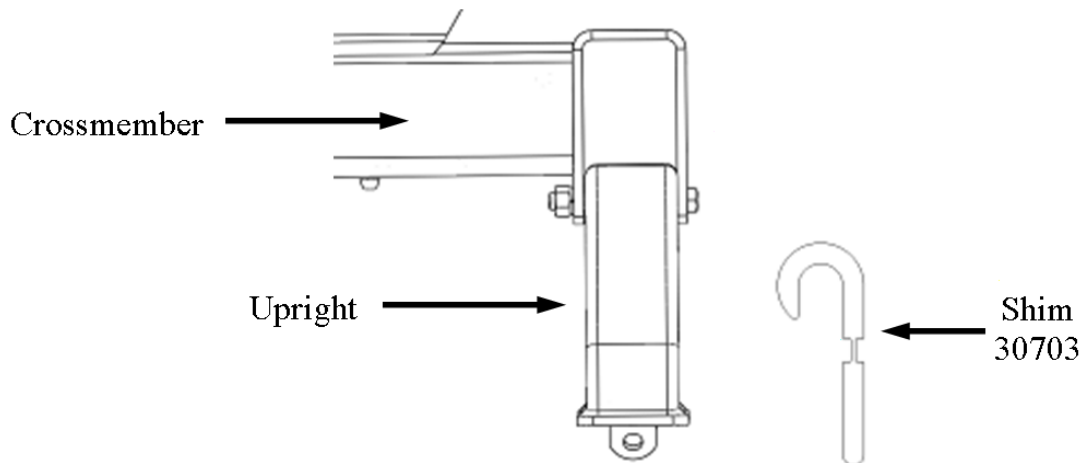

Figure 5
- Position item #1 (DS frame bracket) and item #2 (PS frame bracket) up against the outer surface of the truck frame with the mounting tabs positioned over the frame and under the bed and align slots in brackets to 5/8" hex bolts that were installed in step 6. Brackets are marked with a DS for driver side or PS for passenger side to ensure brackets are placed on the correct side of the frame. Thread item #13 (Plate, Long 5/8-11 Tapped) onto end of item #3 (5/8-11 Hex Head Bolt) loosely for now on all 4 hex bolts. See Figure 5.